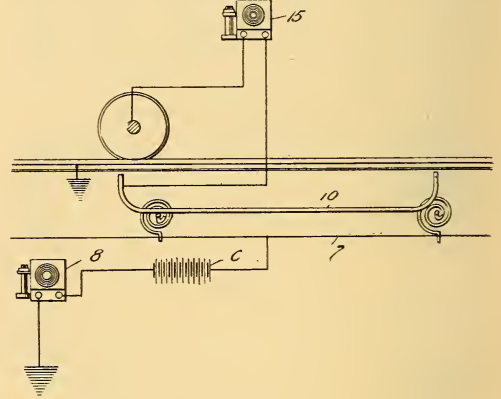

FIG. 3.
Fig. 3 is a diagram showing the electrical connections of the system. A telephone (15) is mounted in the cab of the locomotive. One side of the telephone is